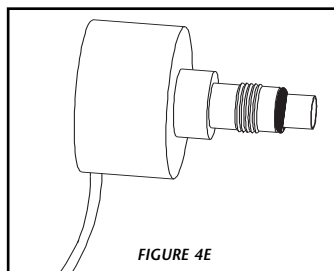
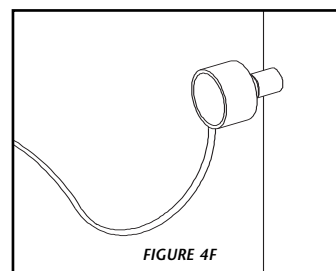

FIGURE 4E
FIGURE 4F
4. Carefully reassemble the sensor assembly into the sensor boss by first inserting the sensor o-ring (Figure 4e) and then the sensor itself. Screw the sensor into the boss and tighten to achieve a water-tight seal. DO NOT OVER TIGHTEN. Attach the sensor cable to the Controller and return to service (Figure 4f).